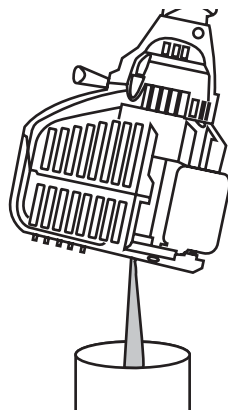

Fig. 29
3. Pour the oil out of the oil fill hole and into a container by tipping the unit to a vertical position (Fig. 29). Allow ample time for complete drainage.